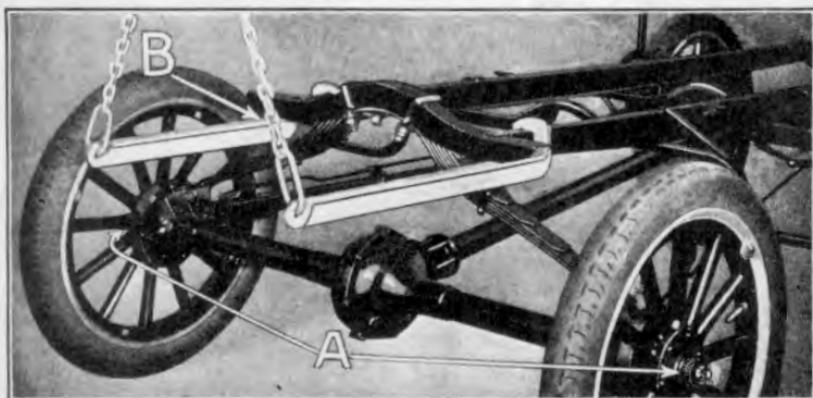

Fig. 53
- Remove hub caps and run off axle shaft nuts (See "A" Fig. 53).